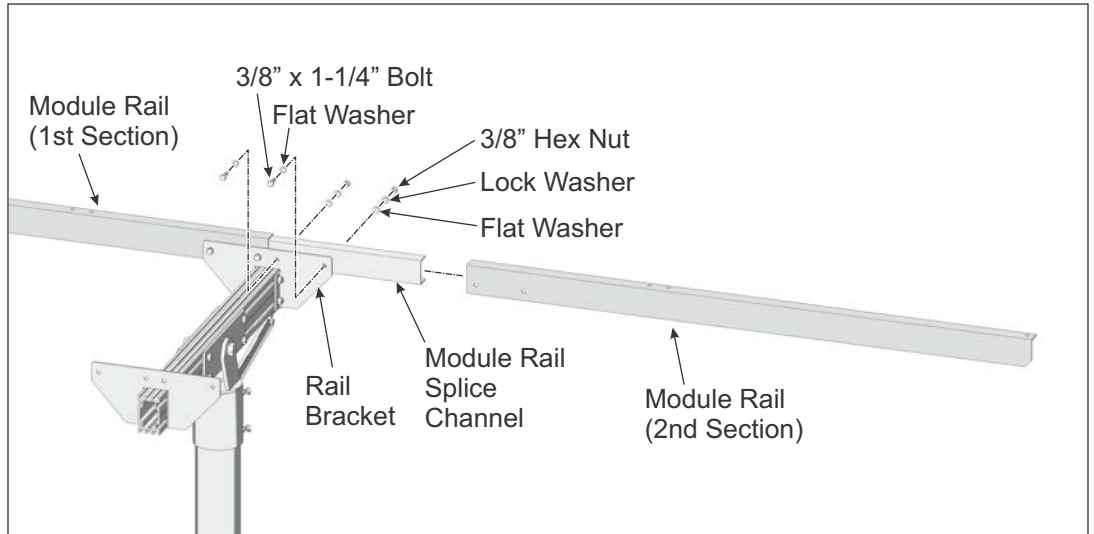

Figure 3-3: Installing Second Section of Module Rail to Rail Brackets
- B. Install the second section of Rail by slipping it between the Module Rail Splice Channel and the Rail Bracket. Align the set of mounting holes with the holes of the Splice Channel and Rail Bracket then secure with 3/8" x 1-1/4" bolts and hardware. Finger-tighten for now. (See Figure 3-3)